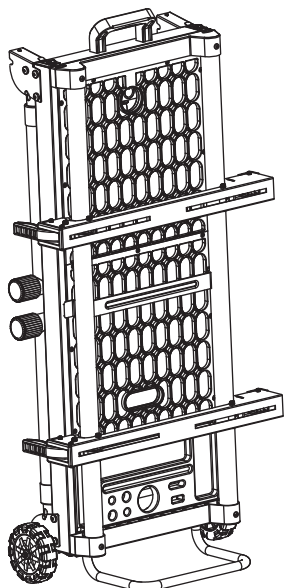

Figure 1
- After the stand is assembled, the wall corner can be stored vertically, as shown in Figure 1, and the storage method in Figure 2 is incorrect.